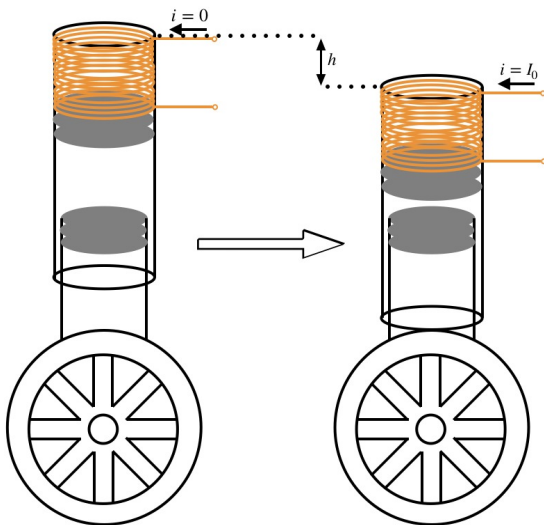

Fig. 1. Designed Suspension System
However, this system manages to achieve this task by constantly altering the strength of a magnetic field via earnest feedback loop, which is too complex just to demonstrate basic electromagnetics concepts. Thus, we decided to implement the given system with a passive control mechanism, i.e., using two repelling magnets placed in a short pipe (see Fig. 1). In addition, we decided to implement a circuitry that can adjust the default height of the car; via passing constant current through the coil that surrounds the aforementioned pipe, which simulates the suspension of the car. Since the Biot-Savart law suggests that a constant current through a wire generates a magnetic field, the specified design will be able to alter the existing magnetic field to change the distance between the two magnets in the suspension pipe [2].
- 3) With additional coils wound to each suspension unit, acquire adjustable default height for the car (see Fig. 1).